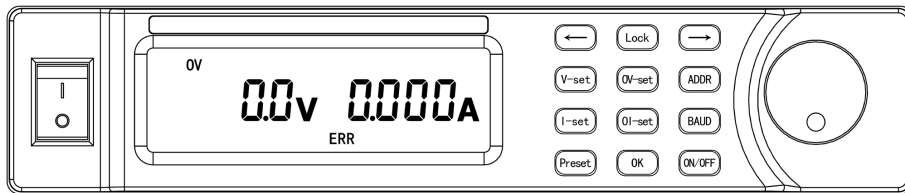
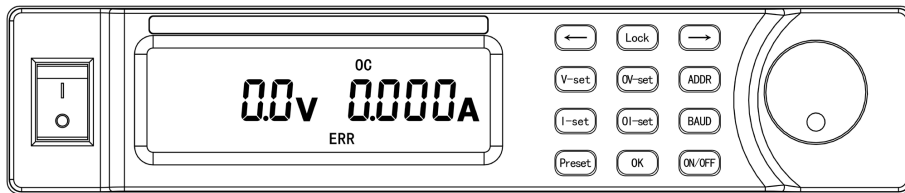

Fig.5-11
Fig.5-12
3. When the output value exceeds the above limit, OV and ERR icons appear, indicating the power supply under OVP mode (refer to Fig.5-11); OC and ERR indicators appear, indicating the power supply under OCP mode (refer to Fig.5-12).